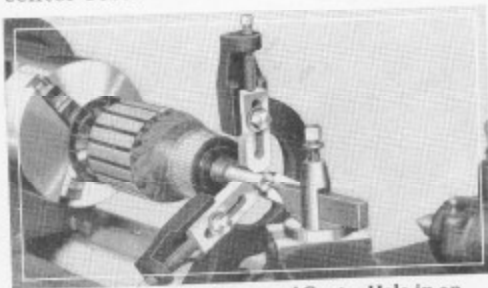

Fig. 10. Restoring a Damaged Center Hole in an Armature Shaft
**Machining a Center Hole True.**—Battered or damaged center holes are restored in the following manner: Place one end of armature shaft in universal lathe chuck and the other end in center rest. See Fig. 10. Adjust jaws of center rest until center of the shaft is approximately true with the point of the tail center. See page 58 of "How to Run a Lathe."